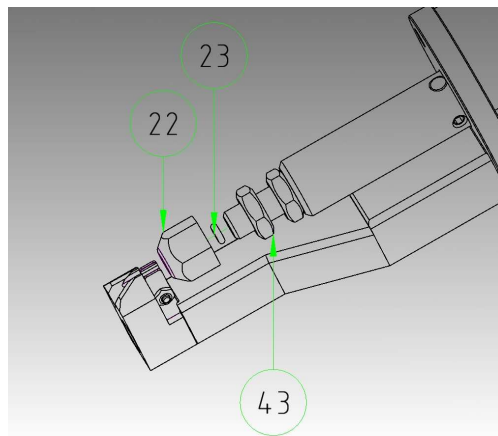

Figure 9
To change the worn parts specified in figure 9, the hexagon nut (pos.43) must be unscrewed at first with a fork wrench SW8. Now the support nut (pos. 22) can be turned out anticlockwise by hand. The o-ring (pos. 23) must be pulled out carefully with an auxiliary tool (e.g. tweezers) from the support nut (pos.22).